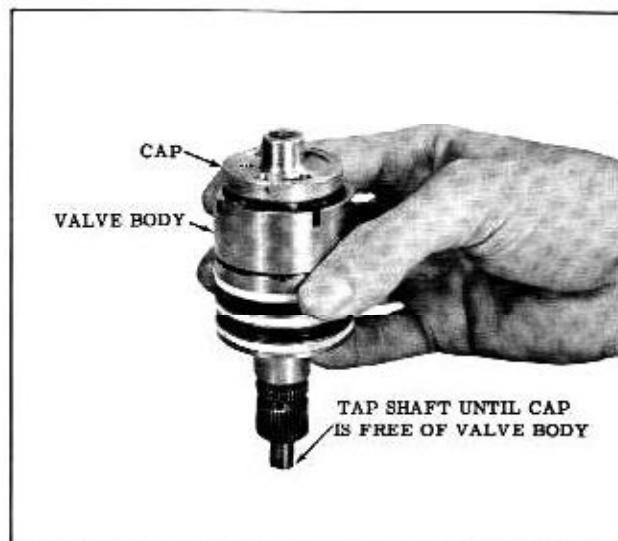

Fig. 4-52 Freeing Shaft Cap
- a. While holding the assembly (lower shaft down), lightly tap the lower shaft against the bench until the shaft cap is free from the valve body. (Fig. 4-52) The spool valve should be held in the valve body while tapping the shaft.